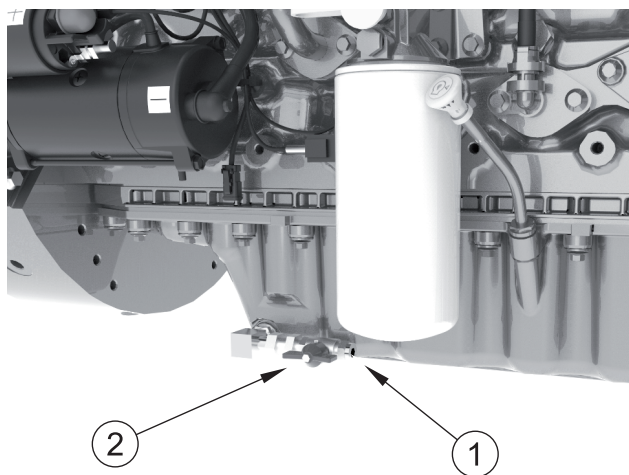

Figure 28
1. Remove the drain plug (figure 28 item 1).
3. Open the drain tap (item 2).